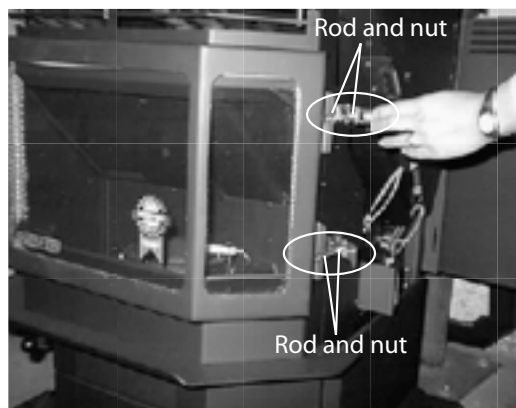

Figure 21.2
3. Latch must close tightly enough to ensure an airtight seal between the door and the body of the appliance. To increase tension on the latch, turn the rod clockwise a few turns, then attempt to close the latch, until it is snug. Do not overtighten; you should be able to close the latch with your hand. **Figure 21.2.**